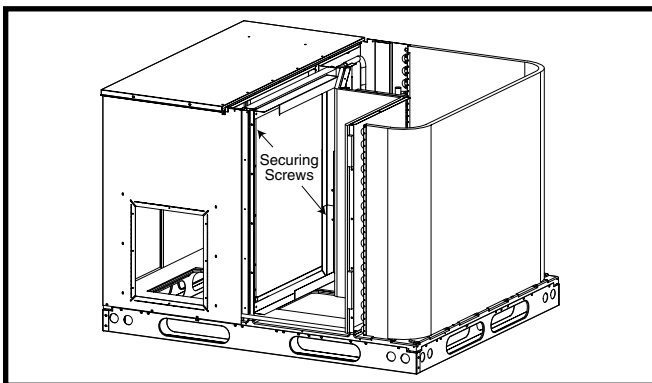

Figure 4. Internal Filter Rack Location
- The appropriate accessory roof curb (Figure 4) must be installed prior to unit installation. The roof curb must be square and level to ensure proper condensate drainage. **Please follow all instructions provided with the kit.**
3. Remove (1) screw securing the assembly to the coil located on the left leg of the rack. **NOTE:** The assembly can now be easily collapsed and removed from the unit. See Figure 4 for filter rack securing screw locations.